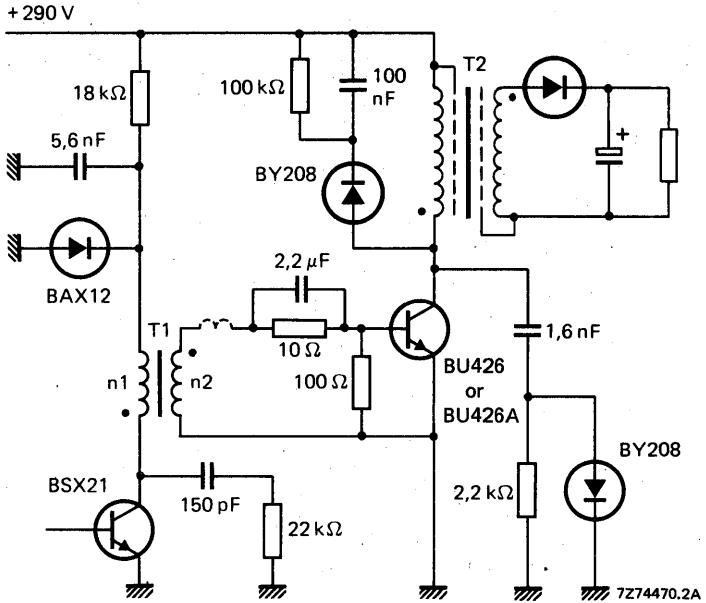

Fig. 19 Practical output circuit of a flyback SMPS of BU426 or BU426A.
All these variables influence the collector dissipation, so that a simple presentation of the design information is only possible if the information is restricted to the main application area of the relevant transistor type. Therefore, as the BU426 or BU426A will mainly be used in flyback converters and the BU433 in forward SMPS, the information of Figs 19, 20, 21 and 22, 23, 24 is based on these applications:
To ensure thermal stability minimum value of T_{amb} in this equation is 40 °C. As indicated, the BU433 will mainly be used in (non-isolated) forward converters, where the turn-off losses are limited by the maximum collector emitter voltage (\approx 300-350 V). The rate-of-rise of the voltage during turn-off must be below 1000 V/ μ s. Application of this transistor in low-power flyback converters is also possible, provided that the rate-of-rise is limited to 500 V/ μ s. For the BU426(A) a rate-of-rise of 1000 V/ μ s is permissible. Practical SMPS output circuits for an output power in the order of 180 W are given in Figs 19 and 22. At a collector current of 2,5 A and a base current of 0,25 A in these circuits the following turn-off times can be expected.